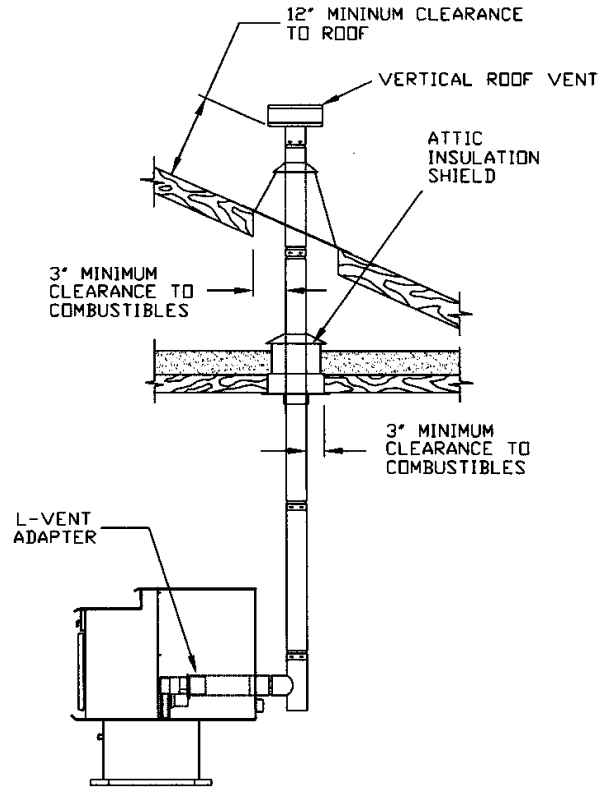
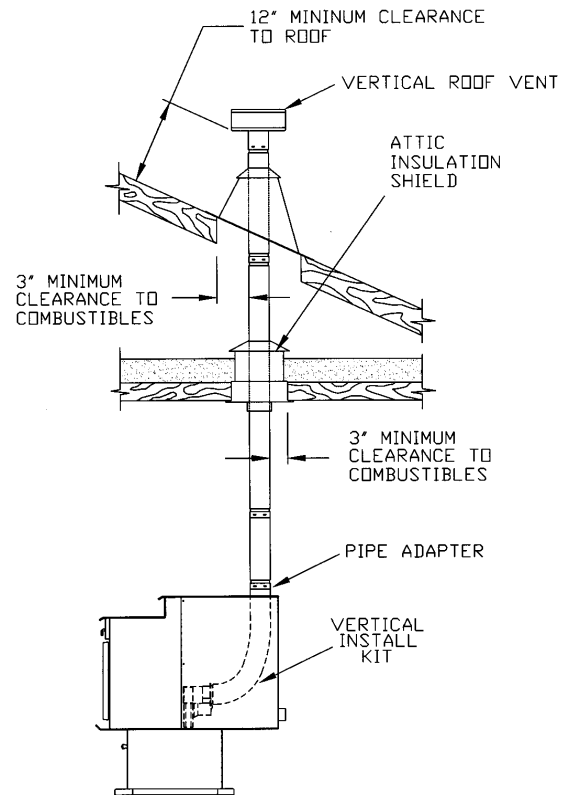

FIGURE 9a
FIGURE 9b
B. VERTICALLY WITH NEW CHIMNEY SYSTEM (Refer to Figure 9a & 9b)
OPTION: To achieve a center vertical installation a 45° elbow and a clean-out tee can be used to offset the pipe from the exhaust outlet to the rear center of the stove (see figure 9a). You can also use the P24FS Vertical Install Kit (part # A-VIK) (see figure 9b).